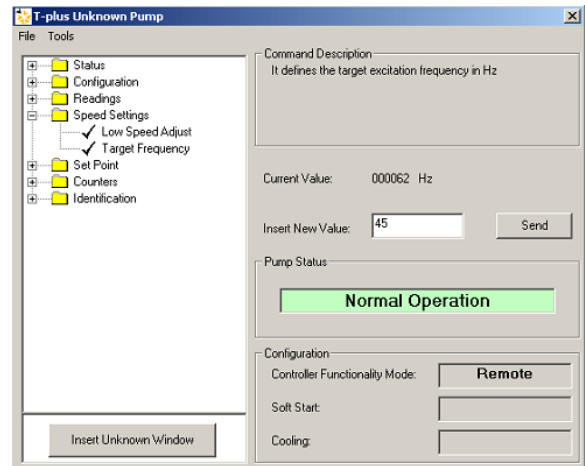

Figure 7 T-Unknown Pump
5. Click **Open Control Panel** and Figure 7 appears.